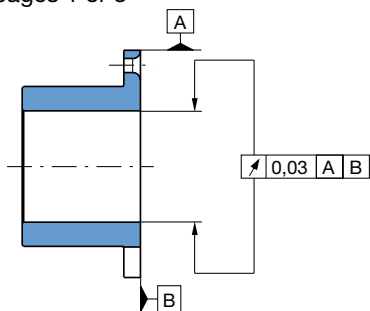

Fig. 108
- Shaft run-out and axial run-out tolerances: 0,03 mm (Fig. 108)